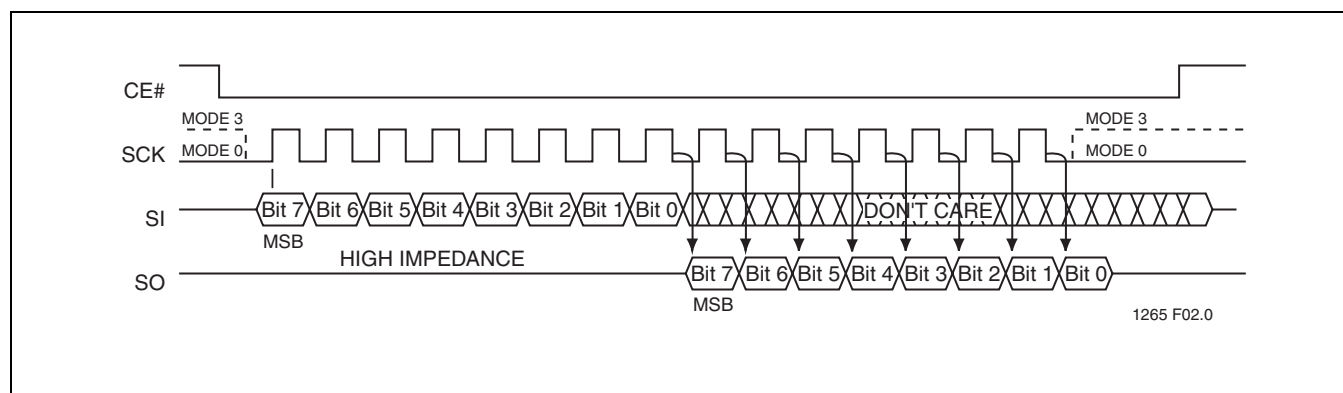

FIGURE 2: SPI PROTOCOL
The SST25VF010A supports both Mode 0 (0,0) and Mode 3 (1,1) of SPI bus operations. The difference between the two modes, as shown in Figure 2, is the state of the SCK signal when the bus master is in Stand-by mode and no data is being transferred. The SCK signal is low for Mode 0 and SCK signal is high for Mode 3. For both modes, the Serial Data In (SI) is sampled at the rising edge of the SCK clock signal and the Serial Data Output (SO) is driven after the falling edge of the SCK clock signal.